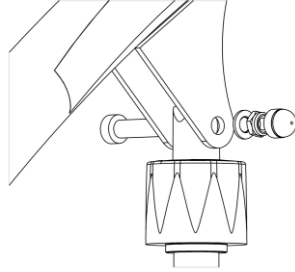

Fig. 1.6E
4. Assembly the actuators piston rod to the lifting arm. Use the Allen key and the spanner to tighten the bolt/nut. (Fig. 1.6E). Put the cap on the nut.